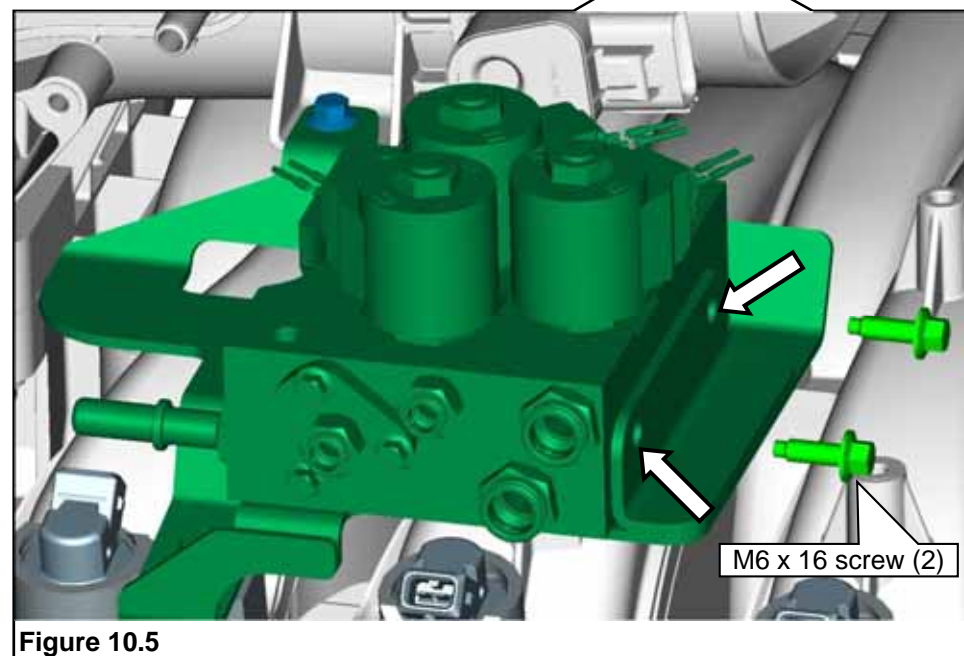

Figure 10.5
4. Loosely install two M6 x 16 bolts into the front bracket of the FRPCM. **Figure 10.5.**